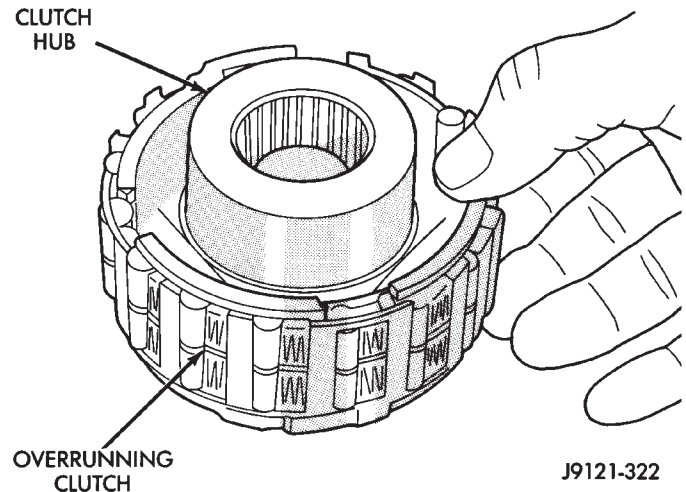
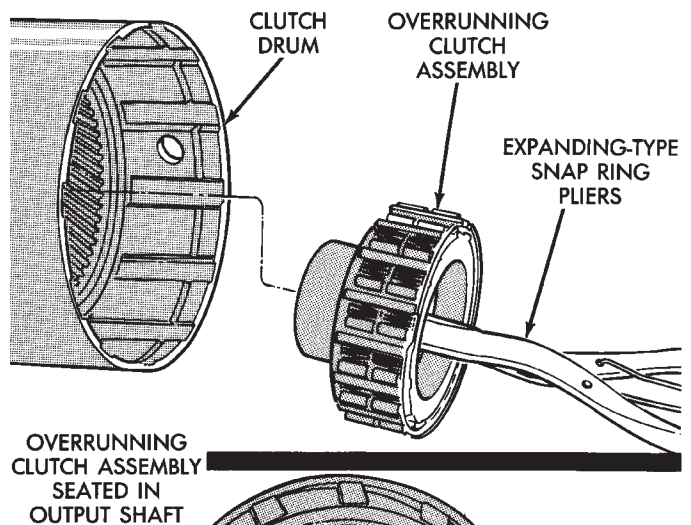

Fig. 225 Assembling Overrunning Clutch And Hub
Fig. 226 Overrunning Clutch Installation
(8) Install overrunning clutch on hub (Fig. 225). **Note that clutch only fits one way. Shoulder on clutch should seat in small recess at edge of hub.**
(9) Install thrust bearing on overrunning clutch hub. Use generous amount of petroleum jelly to hold bearing in place for installation. **Bearing fits one way only. Be sure bearing is seated squarely against hub. Reinstall bearing if it does not seat squarely.**
(10) Install overrunning clutch in output shaft (Fig. 226). Insert snap ring pliers in hub splines. Expand pliers to grip hub. Then install assembly with counterclockwise, twisting motion.